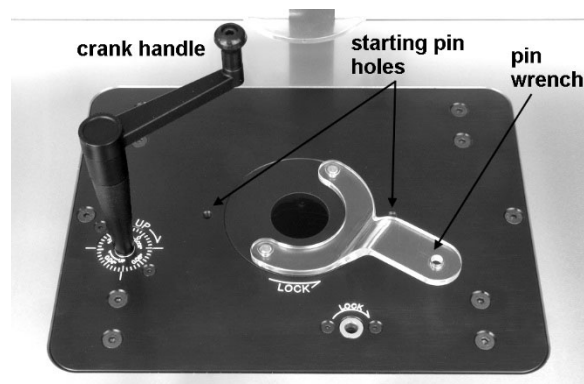

Figure 7-3
6. The starting pin can be inserted into one of two holes in the router plate (see Figure 7-3). It is used as a support to help pivot the workpiece into the bit when doing freehand work. See Figure 8-2.